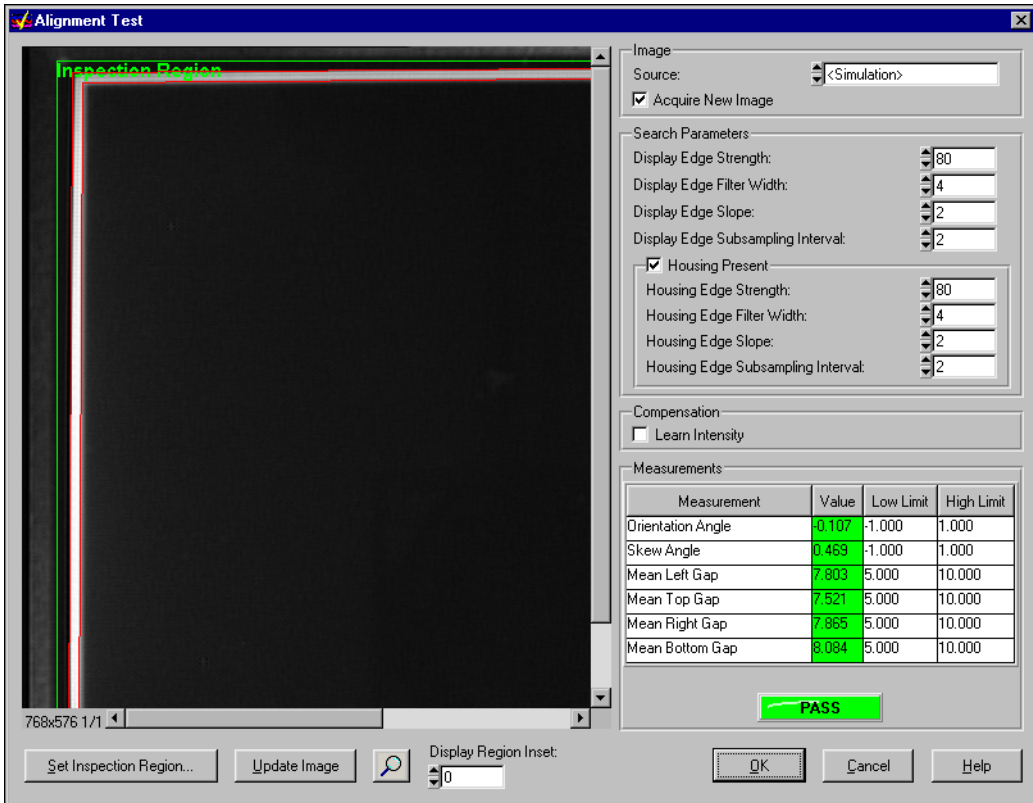

Figure 2-7. Alignment Step Configuration Panel
1. Right-click the **Alignment** step and choose **Configure Alignment** from the context menu. A configuration interface appears, as shown in Figure 2-7.